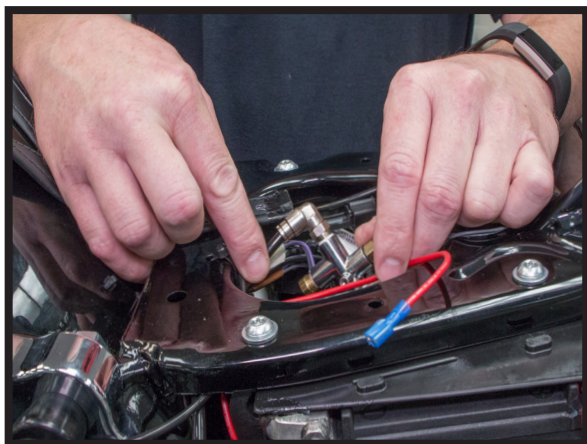

FIGURE 28
14. TRIM THE 1/4" HOSE TO LENGTH AND INSERT INTO THE AIR MANIFOLD. TRIM THE 4MM LINES TO LENGTH. FOLLOWING THE SAME PROCEDURES AS IN STEP 10, ATTACH THE AIR LINES TO THE MANIFOLD. (FIGURES 28, 29)